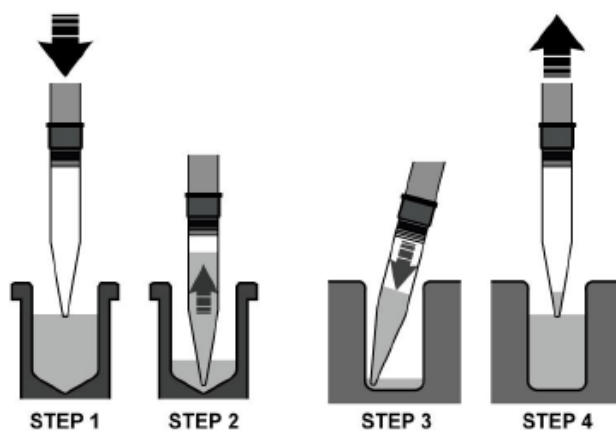

Figure 19. Reverse pipetting.
- Add Gel-Dye solution to chip wells 3, 7, 8 and 10 using a Reverse Pipetting Technique as shown in Figure 19.